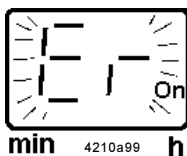

Fig. 23 - Display of a fault indication
- The fault indication " Er " (error) is displayed as a flashing light (fig. 23). At the same time, a potential free contact is available for the external fault indication (option).